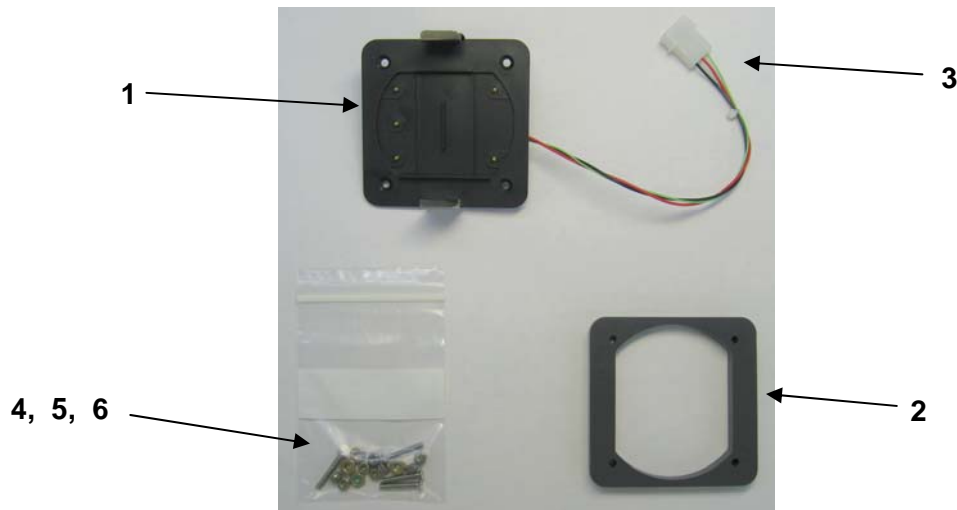
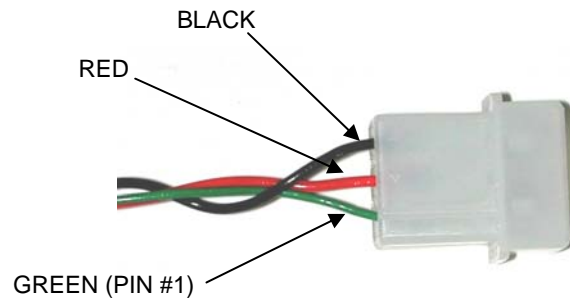

FIGURE 1
FIGURE 2
1. Mount battery pack base (Item 1, Figure 1) using the 4 (each), 6-32 x 7/8" L Phillips head screws provided (Item 4, Figure 1).
NOTE: If mounting the battery pack base to a location other than an instrument hole, the spacer (Item 2, Figure 1) will be necessary. Using the spacer as a drill guide for the proper hole location, drill four (4) 5/32" diameter holes. Use the spacer as the reference for wires to feed through and drill a 3/16" diameter hole in the approximate center of the spacer.
2. Feed battery pack base harness leads (Item 3, Figure 1). If required, disassemble the connector (Item 7, Figure 1) attached (as supplied) to feed wires through the 3/16" diameter center hole. Re-attach the connector. (Refer to Figure 2.)